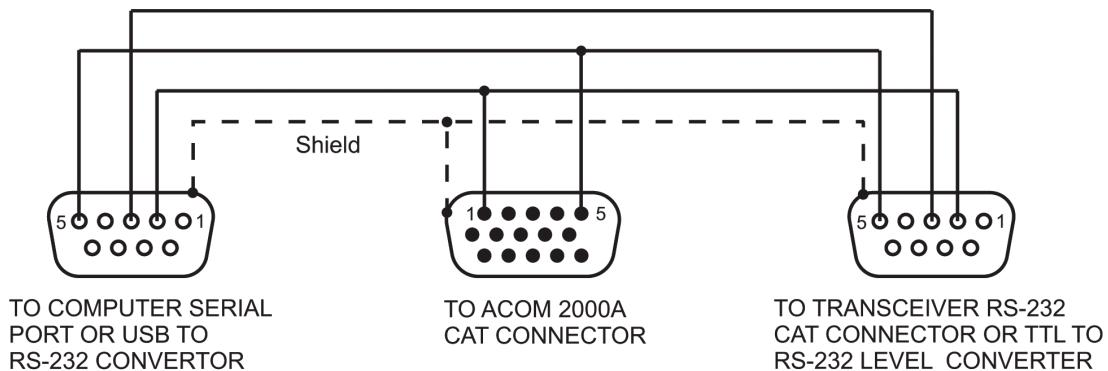

Fig. 7-2 CAT Connection by RS-232 Y cable
**- Y serial cable.** When the CAT port of the transceiver is used for another device such as a computer or an antenna controller, a Y cable should be used. An example is shown on Fig. 7-2. Use only shielded cables for all connections. Note that the amplifier will receive correct data only when the CAT connection between the transceiver and the other device (for example, a computer with running logging software) is active.